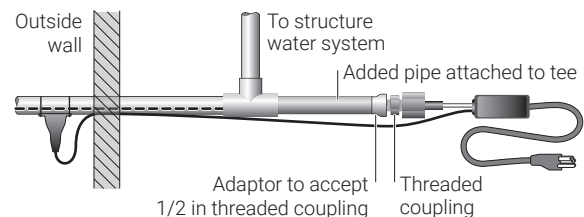

Figure 9
If a length of pipe was added to the tee, ensure adaptor and appropriate pipe fittings to accept threaded coupling are properly connected to end of the 'added pipe' per local codes, and fully insert the cable into the water supply pipe through the end of the pipe as shown in Figure 9.
**Note: Do not attach temperature sensor to a section of pipe that is indoors or to a section of pipe where water will not flow, such as the 'added pipe' as shown in Figure 9.**